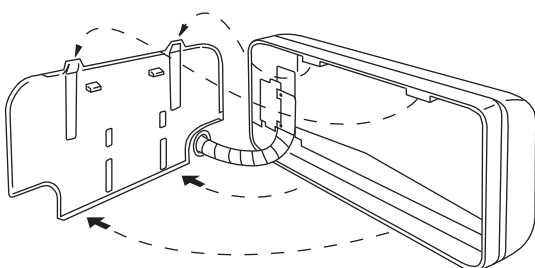
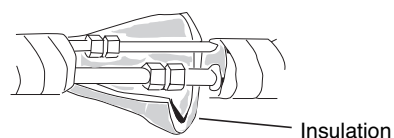

Fig. 36
Fig. 37
- (2) Push the wiring, refrigerant tubing, and drain hose through the hole in the wall. Adjust the indoor unit so it is securely seated on the rear panel. (Fig. 36)
- (3) Carefully bend the tubing (if necessary) to run along the wall in the direction of the outdoor unit and then tape as far as the fittings. (See Caution on page 11 in the outdoor unit installation manual.) The drain hose should come straight down the wall to a point where water runoff won't stain the wall.
- (4) Connect the refrigerant tubing to the outdoor unit. (After performing a leak test on the connecting part, insulate it with the tubing insulation. (Fig. 37)) Also, refer to Section 3-6. Tubing connections in the outdoor unit installation manual.
- (5) Assemble the refrigerant tubing, drain hose, and inter-unit wiring as shown in Fig. 37.